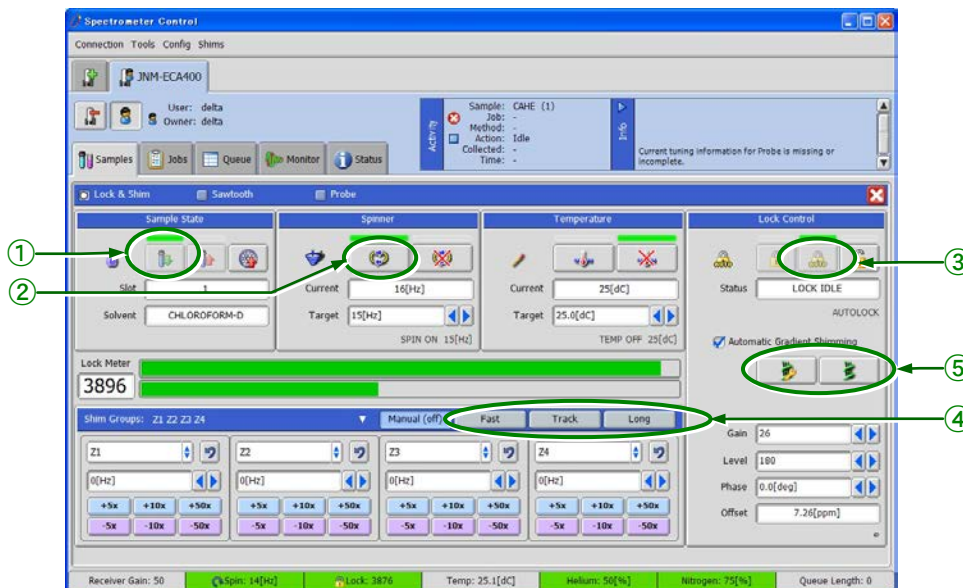

Fig. 1.10 Manual Sample Pane
- ◆ Click the  button in Manual Sample Pane (Fig. 1.10 ①).
- ◆ Click the  button (Fig. 1.10 ②).
1. Click the  button (Fig. 1.10 ③).
For automatic resolution adjustment, you can select the Automatic shimming (Fig. 1.10 ④) or the Automatic gradient shimming (Fig. 1.10 ⑤).